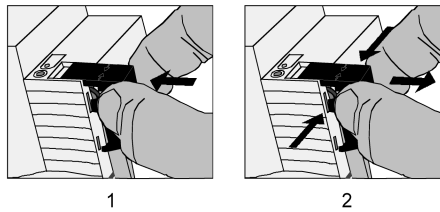

Figure 4: Installing / removing the protective cap for the bus connection
- To install the cap: slide the cap over the bus connecting terminal until you feel it engage (figure 4).